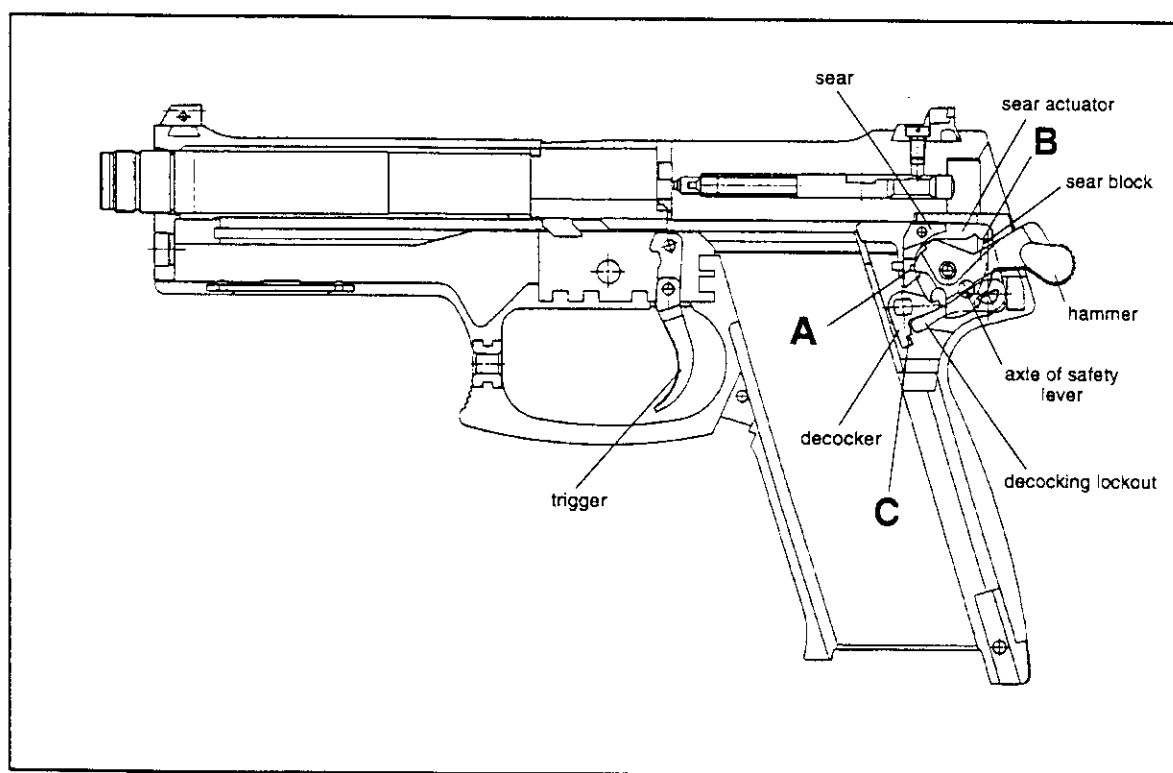

Figure 22
1. Safety lever is engaged (up), pistol is set on "safe" (Figure 22).